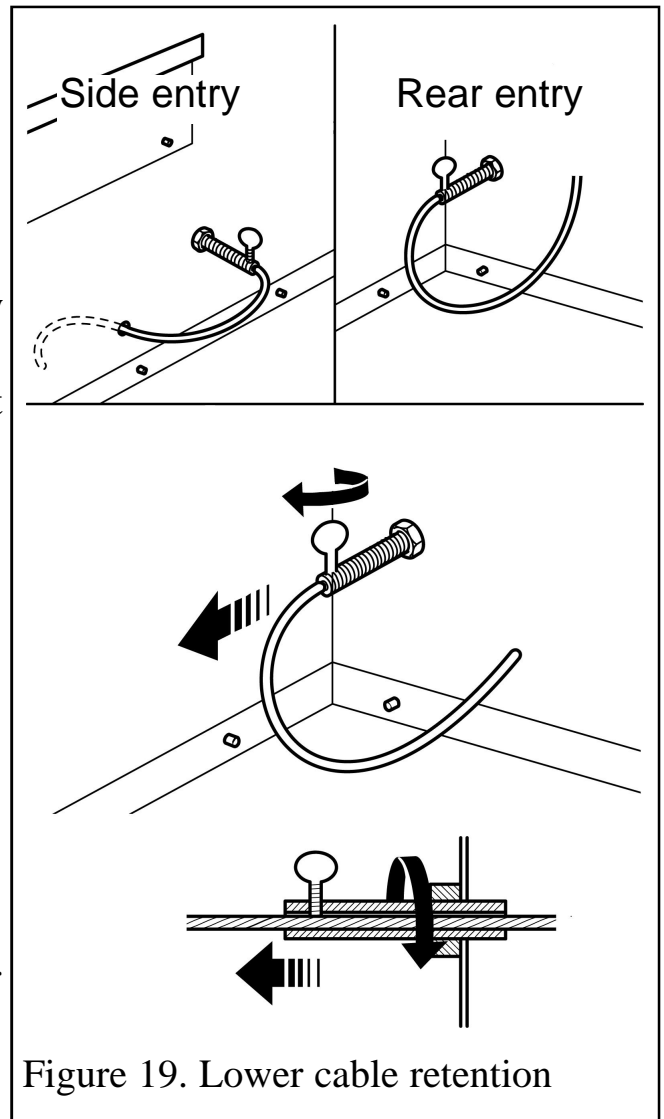

Figure 19. Lower cable retention
11. Pull each cable taut. Push the cable adjusters hard up against the back panel. The end of the cable adjuster will pass into the hole. Tighten the screws in the adjusters so that they clamp the cables in position. Apply tension to the cables by turning the hexagonal adjusters by hand (See figure 19).
14. Feed the free length of the cables into the gap between the inner and outer back panels so that they are available to allow easy removal and refitting of the appliance during subsequent service calls. **Do not cut off the free lengths of cable.** On precast flue installations feed the cables into the small holes at the base of the side panels (See figure 19)